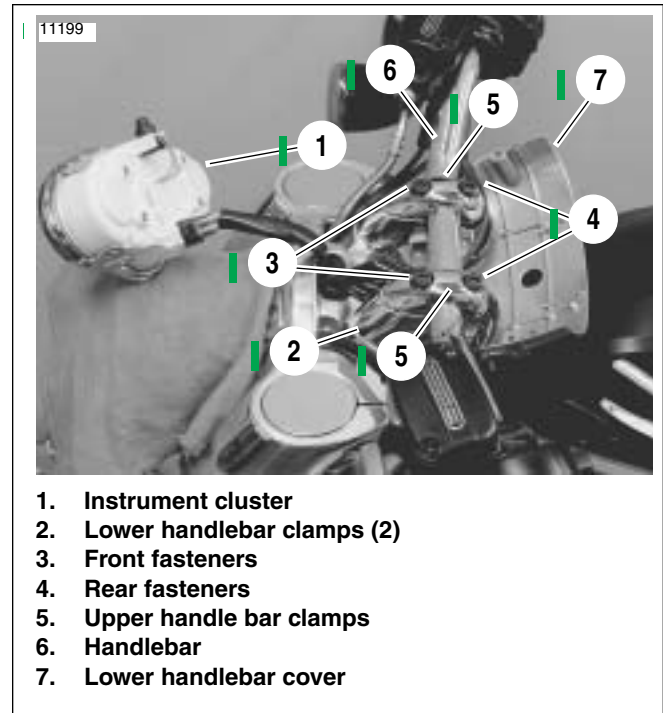

Figure 2-73. Handlebar Assembly
4. See Figure 2-73. Place a shop towel over headlamp bucket to protect finish. Carefully lift instrument cluster (1) from lower handlebar cover and rest instrument cluster on shop towel.
11. Remove front fasteners (3) and rear fasteners (4) holding handlebar to upper triple clamp. Remove upper handlebar clamps (5) and remove handlebar (6) from lower handlebar clamps (2).
1. See Figure 2-73. Install handlebar (6) in lower handlebar clamps (2). Install upper handlebar clamps (5) and install front (3) and rear (4) handlebar fasteners. Position handlebars to original location and tighten to 41-47 Nm (31-35 ft-lbs).